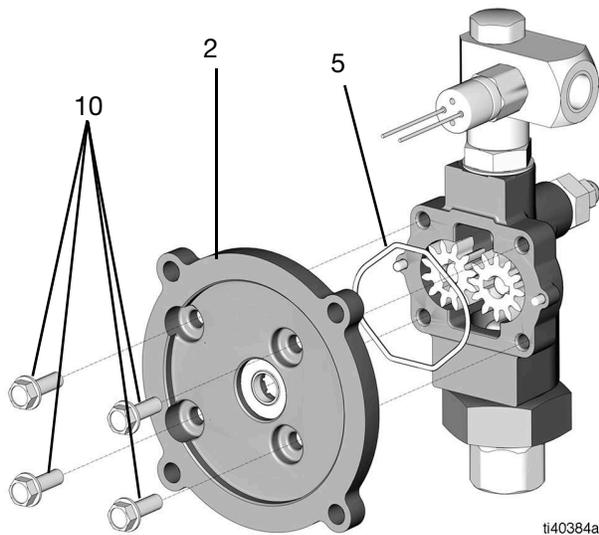

FIG. 26
15. Remove four screws (10) on the adapter plate (2) using a 1/2 in. socket wrench (FIG. 26).
16. Remove the adapter plate (2) (FIG. 26).
4. Push the four screws (10) through the adapter plate (2) and use a 1/2 in. socket wrench to tighten (Torque 30 ft-lbs, 40.7 N•m) (see FIG. 26).